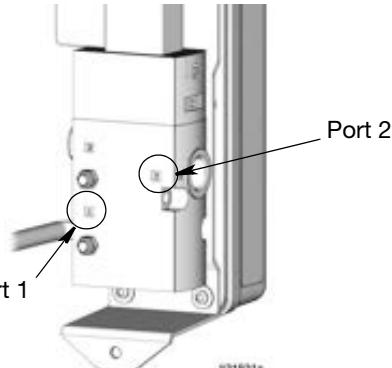

FIG. 32
6. Apply thread sealant to male threads of fittings. Connect air supply line to port 1 (FIG. 32).
7. Apply thread sealant to male threads of fitting. Connect line to the pump air inlet to port 2 (FIG. 32).